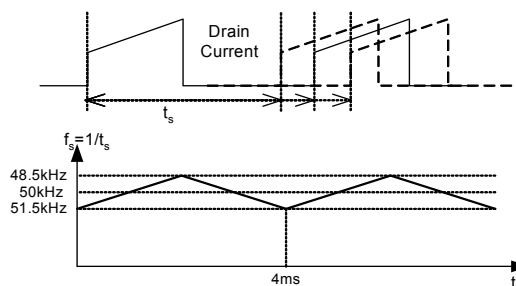

Figure 10. Frequency Modulation Waveform
7. Frequency Modulation : Modulating the switching frequency of a switched power supply can reduce EMI. Frequency modulation can reduce EMI by spreading the energy over a wider frequency range than the bandwidth measured by the EMI test equipment. The amount of EMI reduction is directly related to the depth of the reference frequency. As can be seen in Figure 10, the frequency changes from 48.5kHz to 51.5kHz in 4ms for the FSDL0165RN. Frequency modulation allows the use of a cost effective inductor instead of an AC input mode choke to satisfy the requirements of world wide EMI limits.